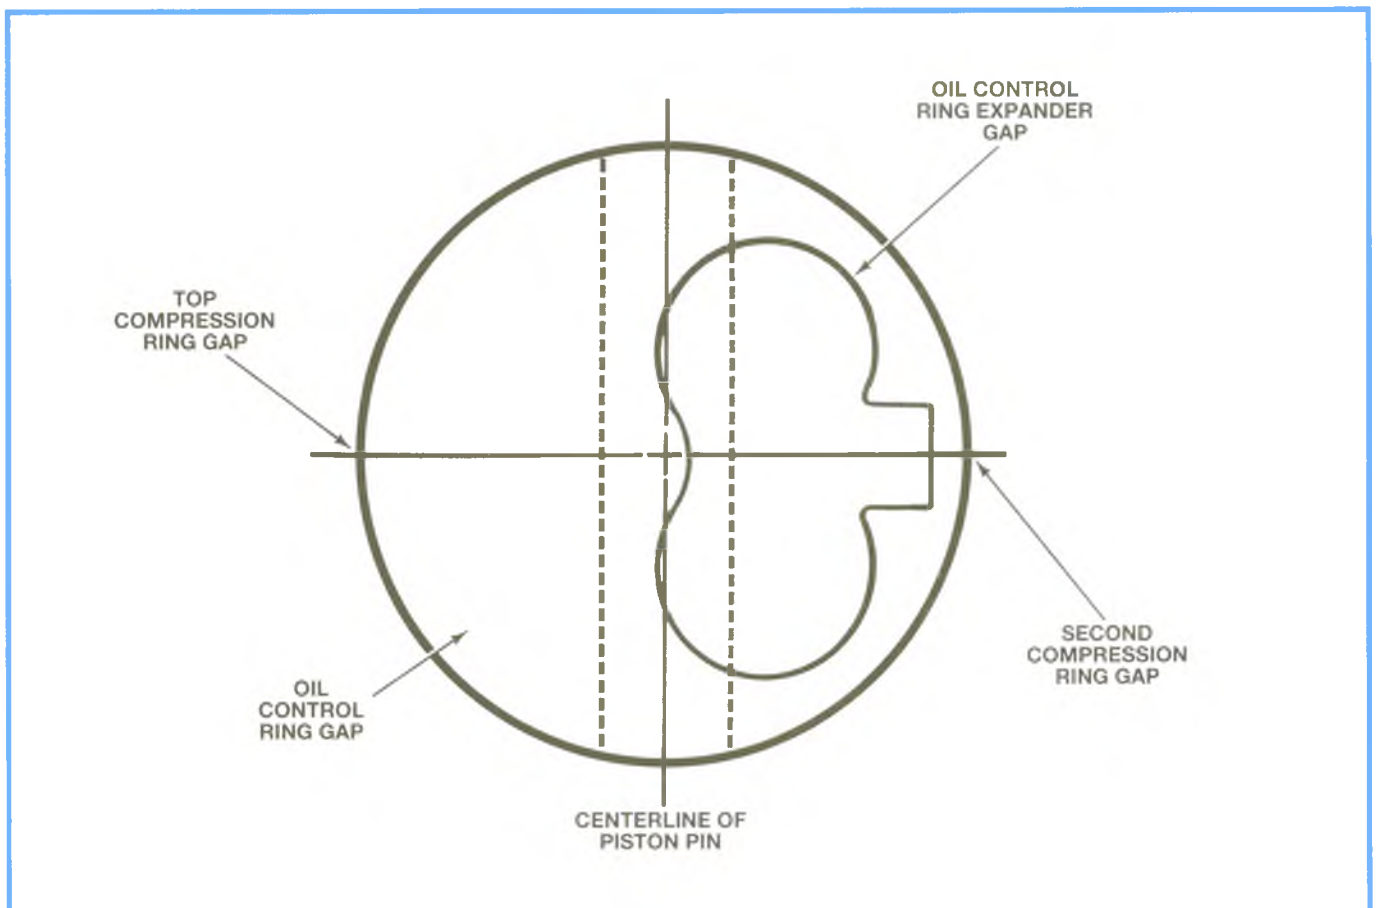

Figure 2-15, Piston Service Features
- Each piston ring gap must be aligned (refer to Figure 2-15).